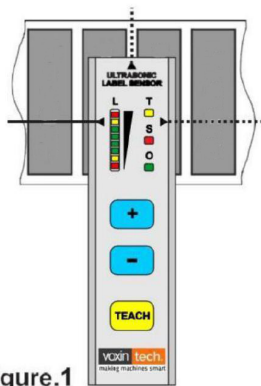

Figure.1
1. The tape label is positioned in gap between labels - Figure 1, in line with the markers on the front panel.